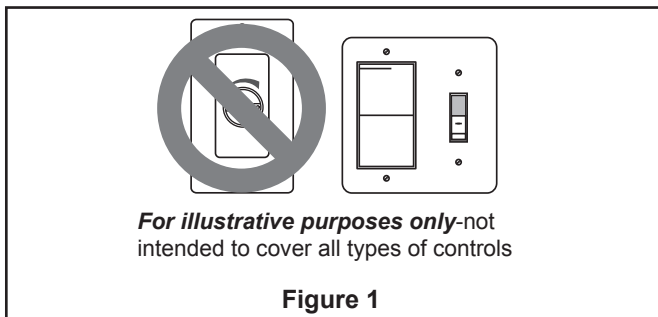

Figure 1
1. **IMPORTANT:** Using a full range dimmer switch (not included) to control fan speed will damage the fan. To reduce the risk of fire or electrical shock, do not use a full range dimmer switch to control the fan speed. (Figure 1)